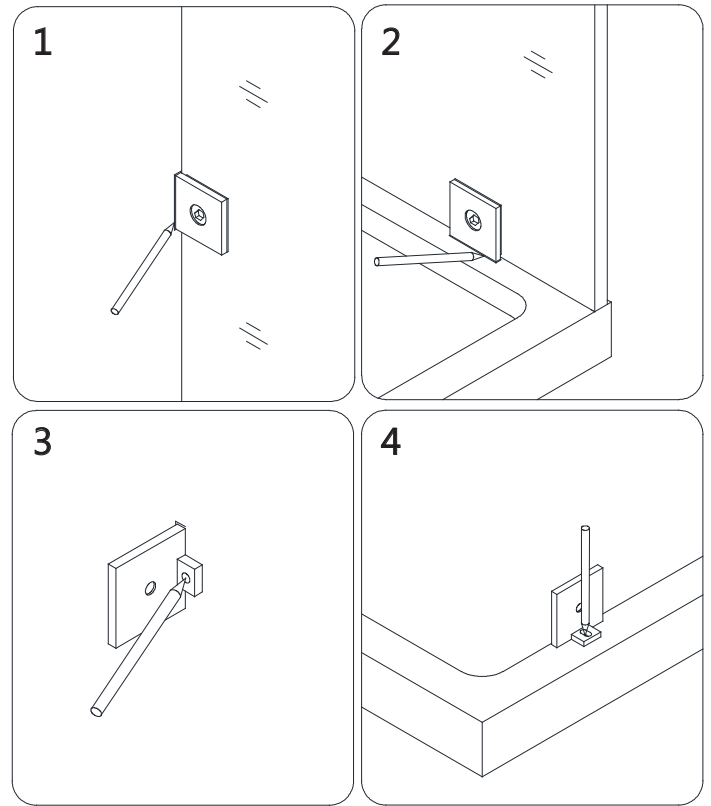

Fig 3
3. Outline the position of the **Wall Brackets (#19)** on the wall and the shower base or threshold. Carefully set the **Return Panel (#27)** aside. Remove the **Wall Brackets (#19)** from the **Return Panel (#27)**. Place the brackets against the outlined positions and mark the holes on the wall and threshold for drilling. **(Fig 3)**